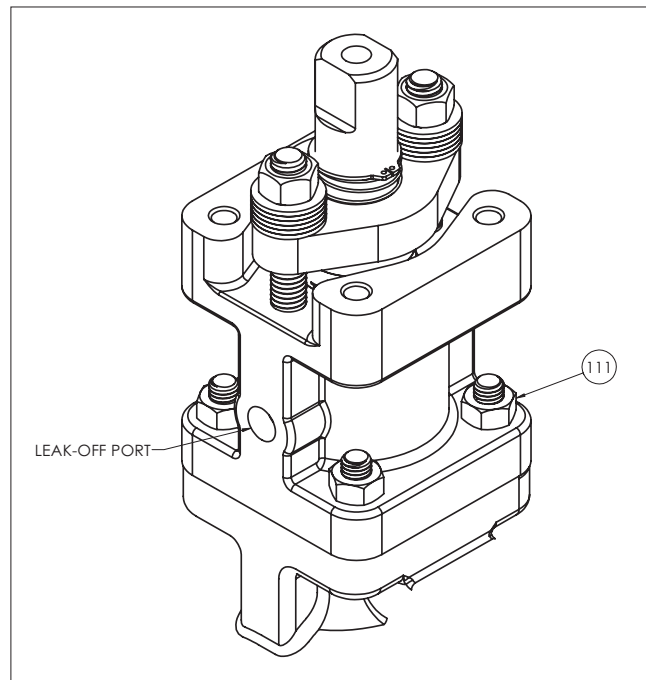

Figure 6.
8. Remove the tool and lift out the insert (2).
10. Rotate the stem so that the ball is in the closed position for removal. If the ball (3) does not swing free from the body, with the ball in the fully closed position, use a piece of wood or some other soft material to gently tap the ball (from the end opposite the body cap). This should loosen the ball so that it can be pivoted free of the stem (4). Lift out the body seal (6), seat (5), and the ball. The bottom grounding spring (71), located in bottom of the stem, may fall out at this time. If the spring does not fall out with the stem, remove it from the stem to prevent it from being lost.
11. Carefully remove the bottom seat (5) out of the body, **BEING CAREFUL NOT TO SCRATCH THE BODY SEALING SURFACE BEHIND THE SEAT.**
12. Remove the retaining ring (72) and grounding spring (70) from stem (4).
13. Remove hex nuts (30), disc springs (31) and compression plate (20). Pay careful attention to the orientation of the disc springs (31) and make sure they are in the same orientation during assembly.
14. Remove hex nuts (111) and lift the *Emission-Pak* housing (101) straight up until the ball end of the stem (4) clears the valve body (1) (see **Figure 6 and 20**).
15. Carefully remove and discard the inner and outer stem retainer seals (105) and (106).
16. From the *Emission-Pak* housing (101) remove the stem (4), stem bearings (13), secondary stem seal (7), stem seals (104), bearing strip (109) and lantern ring (103), **BEING CAREFUL NOT TO DAMAGE ANY SEALING SURFACE.**